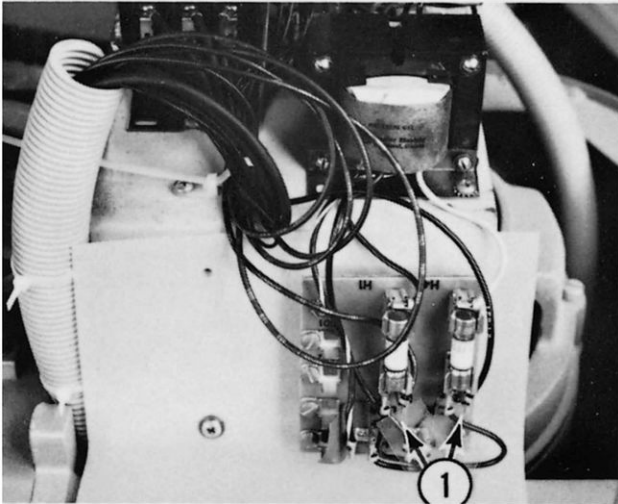

Fig. 16-1
(1) 120V AC to power the motor contactor coil, timer motor and the bowl light.
(2) 20V AC to power the motor protector circuit.
B. Check the input voltage to the transformer primary between terminals L1 and L2 (1, Fig. 16-1) on the fuse board.